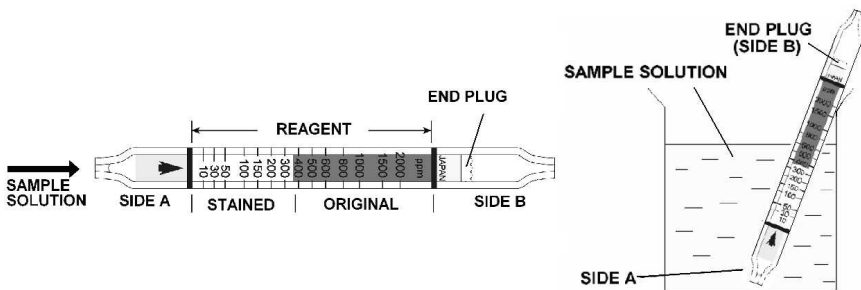

Fig.1
- ② Immerse the end of the tube with side A into the sample solution to draw it up by capillary action as shown in Fig.1. (Arrow mark shall point to the surface of the sample solution.)
- ③ When the sample rises up to the end plug (side B), remove the tube from the sample solution.
- ④ Read the scale at the maximum point of the stained layer.
- ⑤ When the concentration of sample solution is over the 2000ppm (full scale), dilute the sample solution accurately (by some ratio) with distilled or purified water and measure the sample solution and multiply reading value by the dilution ratio.